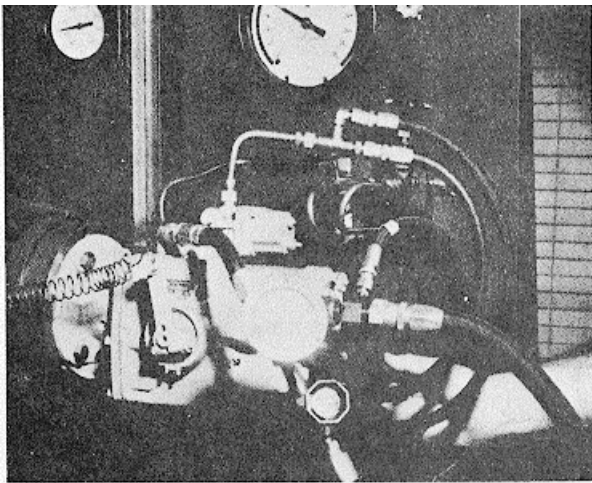

Fig. 5-1-14, F5106. Adjust vacuum on suction restriction
3. Adjust vacuum valve in fuel pump suction line to obtain 8 inch [203 mm] Hg. on vacuum gauge. Fig. 5-1-14.